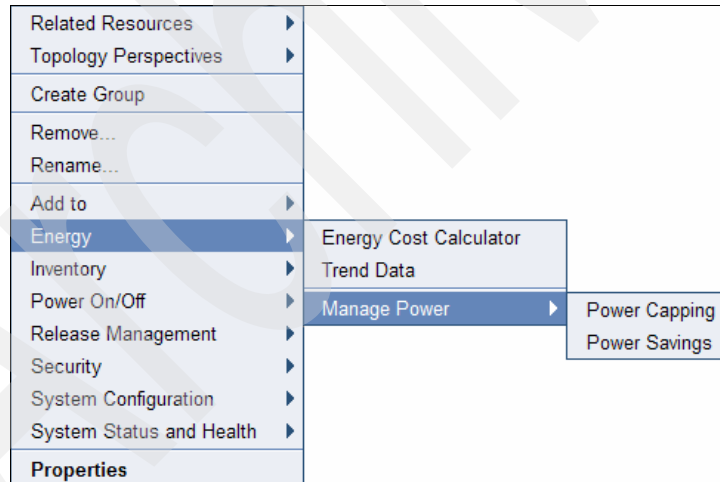

Figure 6-6 Active Energy Manager functions from the resource context menu - 1
5. To run most of the Active Energy Manager functions that we discuss in this chapter, simply right-click a resource and select the option that you want from the context menu. Figure 6-6, Figure 6-7 on page 191, and Figure 6-8 on page 191 show some examples of accessing Active Energy Manager functions.
3. To run Active Energy Manager tasks on a group, simply right-click the group to view the context menu. Displays open that are similar to the displays for an individual resource in Figure 6-6 on page 190, Figure 6-7 on page 191, and Figure 6-8 on page 191. However, when you try to run a task (for example power capping) on a group of Active Energy Manager resources, you might see a warning that the function is not supported on all members of the group (as shown in Figure 6-13). All members of a group need to support the function that you are trying to run.